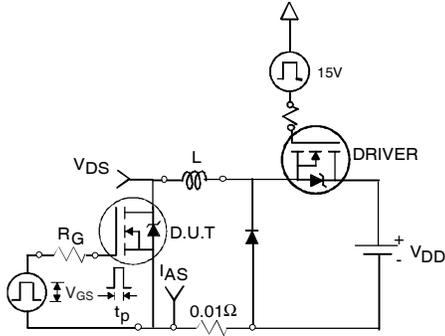

Fig 12a. Unclamped Inductive Test Circuit
- ③ $I_{SD} \leq 104A, di/dt \leq 240A/\mu s, V_{DD} \leq V_{(BR)DSS}, T_J \leq 175^\circ\text{C}$
- ④ Pulse width $\leq 400\mu s$; duty cycle $\leq 2\%$.
- ⑤ $C_{oss\ eff.}$ is a fixed capacitance that gives the same charging time as C_{oss} while V_{DS} is rising from 0 to 80% V_{DSS} .
- ⑥ Limited by T_{Jmax} , see Fig.12a, 12b, 15, 16 for typical repetitive avalanche performance.
- ⑦ This value determined from sample failure population. 100% tested to this value in production.
3. Equation below based on circuit and waveforms shown in Figures 12a, 12b.